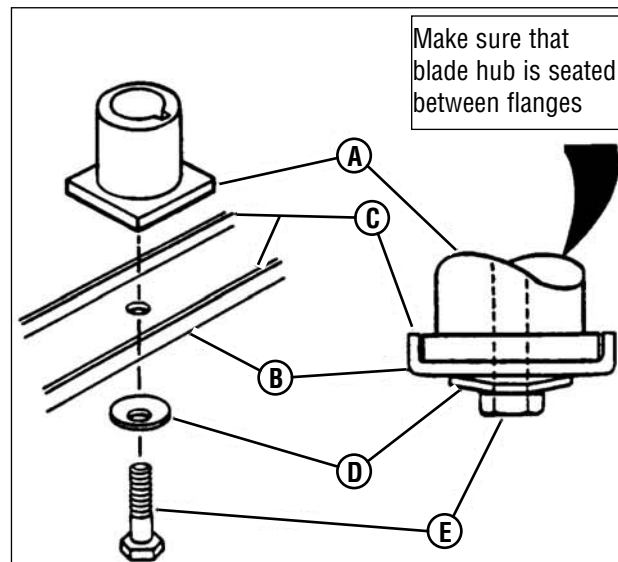

Figure 16: Removing the mower blade
- Remove the blade (**B, Figure 16**).
- Reinstall blade (**B, Figure 16**). Note the correct assembly order:
- (A) Blade hub
- (B) Blade
- (C) Blade flange (facing up)
- (D) Cone washer (concave side up)
- (E) Capscrew